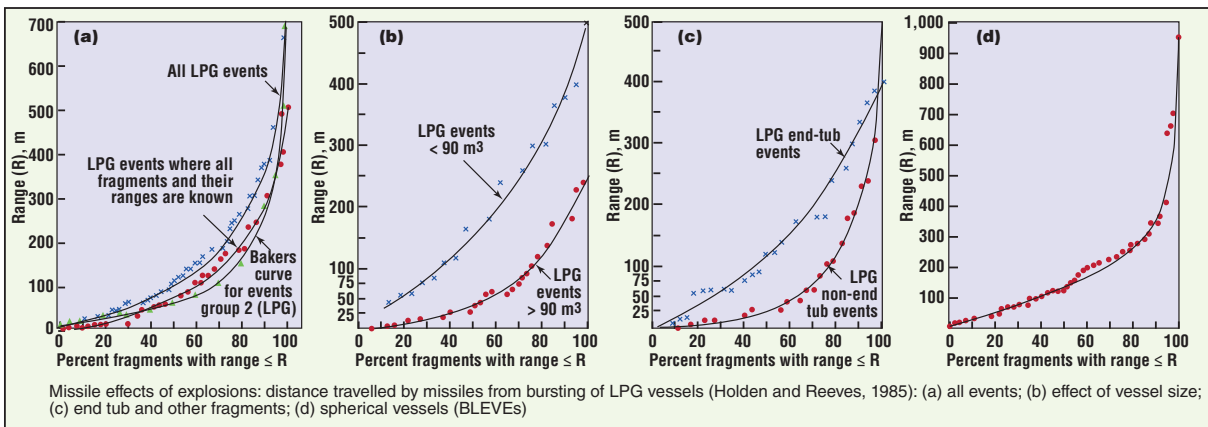

FIGURE 1. Range of missiles from explosions of LPG vessels [1]
ents observed fragment ranges from boiling-liquid expanding vapor explosions (BLEVEs) of liquefied petroleum gas (LPG) vessels (Figure 1). Although most fragments traveled 700 m or less, one fragment traveled about 1,000 m (see Curve "d" for spherical vessels). A BLEVE might result in substantially larger distances than a compressed gas explosion of the same container at the same burst pressure. This is because the liquid-filled vessel contains a much larger mass of liquid and a significant fraction of that liquid will vaporize (boiling liquid) upon vessel failure. The vapors will then burn and expand even further. Although the LPG vessels probably failed at pres-
**Probability of personnel injury by projectiles.** Because of the potentially large ranges of projectiles from rupture of a piping system, the choice of exclusion zones for pneumatic testing could be quite large if they were based on these potential fragment ranges. However, most fragments from rupture of a piping system will fall near their original location (See Figures 1 and 2). One rough approximation proposed here regarding the distribution of fragments is to assume an exponential decay with distance.